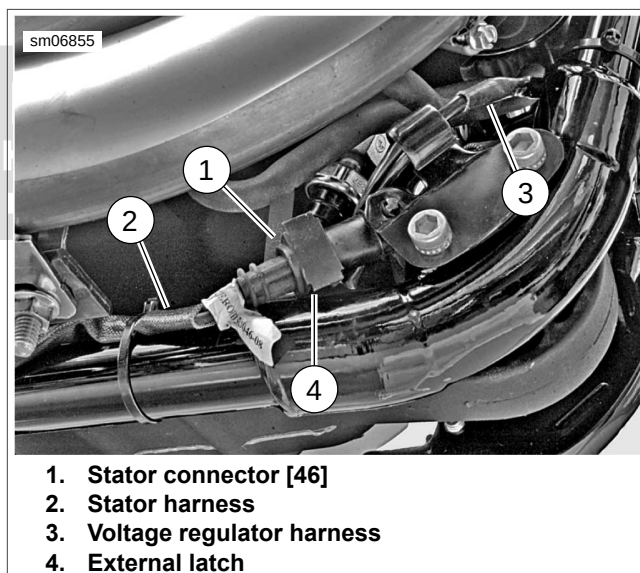

Figure 6-99. Stator Connector Location
1. See Figure 6-99. Open external latch (4) and unplug stator harness connector [46B] (2) from voltage regulator harness connector [46A] (3). See 6.23 VOLTAGE REGULATOR.